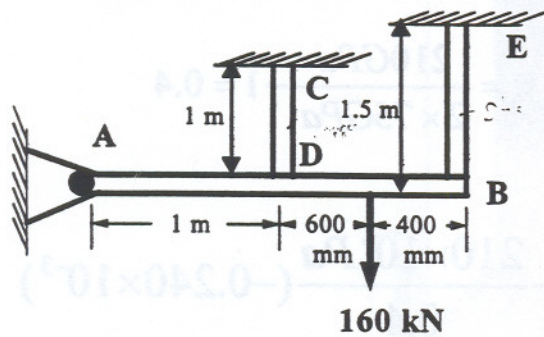

Fig.1
- 15 1. The bar AB is considered to be absolutely rigid and is horizontal before the load of 160 kN is applied, as shown in Fig. 1. The connection at A is a pin, and AB is supported by the steel rod EB and the copper rod CD . The length of CD is 1 m , of EB is 1.5 m . The cross-sectional area of CD is 500 mm^2 , and of EB is 300 mm^2 . Determine the stress in each of the vertical rods and the deflection at the load point of bar AB . Neglect the weight of AB . For copper, $E=120\text{ GPa}$; for steel, $E=200\text{ GPa}$.